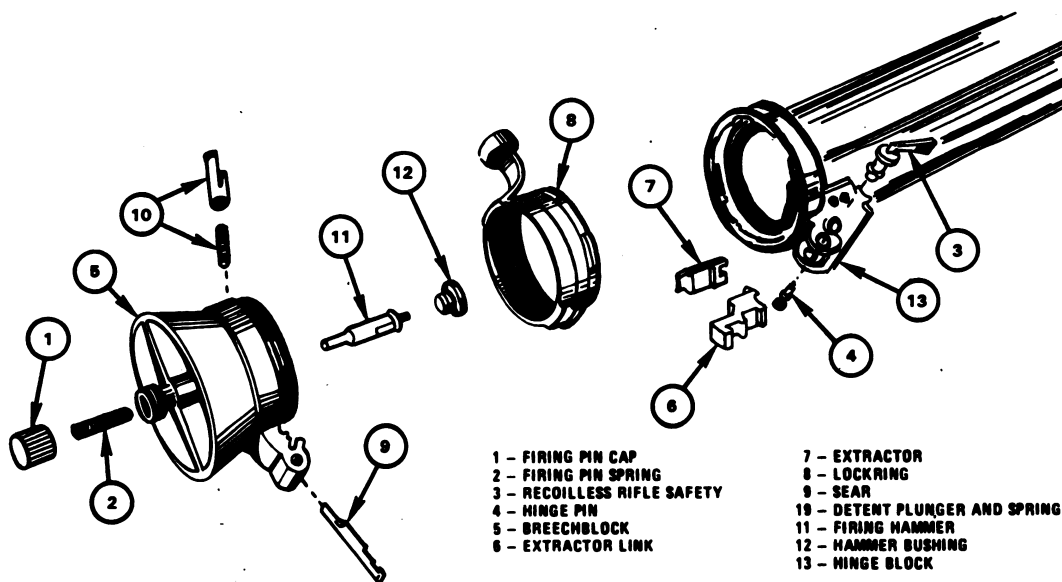

Figure 1
1. General Disassembly of Weapon (fig. 1).